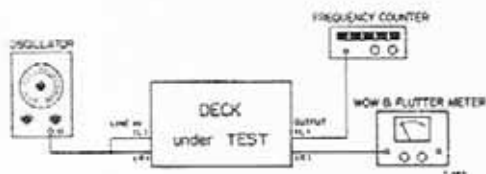

Fig. 7-5 Test Connections for Wow/Flutter and Tape Speed Test
The tape speed should be measured using TEAC flutter free tape, Model YTT-2004 (15 ips), YTT-2003 (7-1/2 ips) and YTT-2002 (3-3/4 ips). These tapes contain a highly accurate 3,000 Hz tone. Connect a digital frequency counter to either line OUTPUT jack. See Fig. 7-5. The indicated frequency should be 3,000 Hz ( $\pm 30$  Hz) for all speeds during playback of the tape.
1. Connect Test equipment to the deck as shown Fig. 7-5. (Except oscillator).
1. Connect Test equipment to the deck as shown Fig. 7-5.